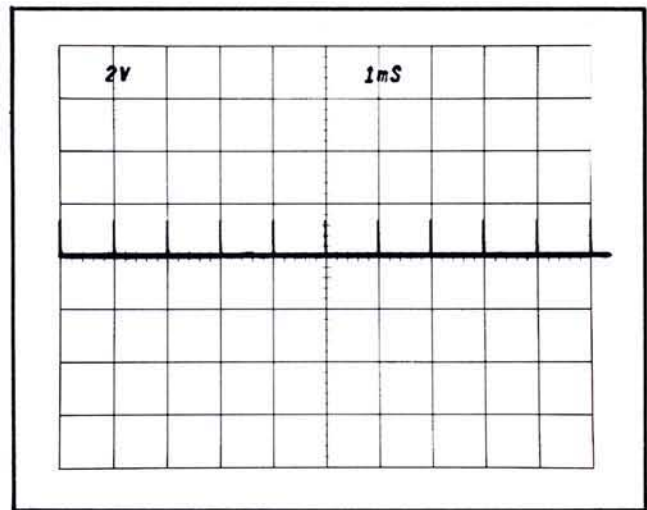

Fig. 5-7. CRT display showing SWP CAL adjustment correctly set.
- CHECK—CRT display for one 1 ms marker for each division between the second and tenth vertical lines (see Fig. 5-7).